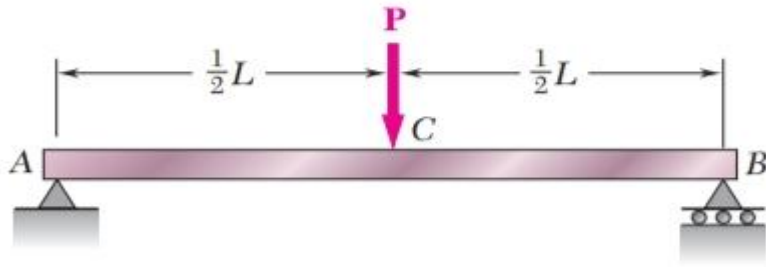

Fig 6
- (i) a simply supported beam AB of span L subjected to a single concentrated load P at its midpoint C(Fig 6) [5]